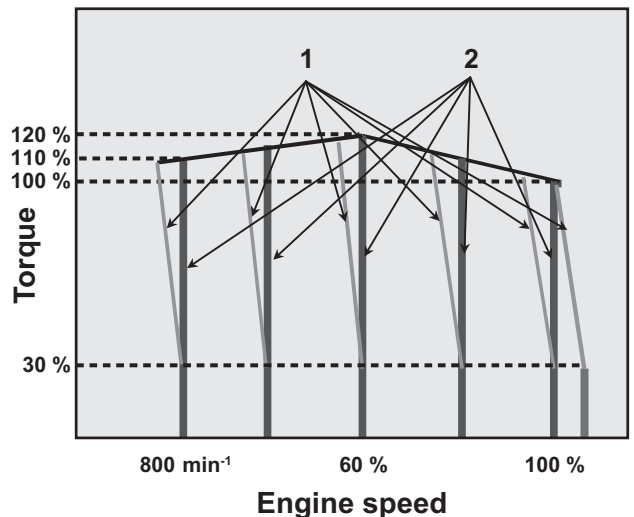

Figure 21
Figure 21 shows typical engine speed curves that outline the relationship between engine speed and load.
The VM series engines for general use are designed so that the engine speed is reduced by a certain percentage from 30% load to full rated load. See curves (1) in **Figure 21** below. The same percentage droop is maintained at any no-load speed.
The CL series consists of isochronous design engines, the speed of which is kept constant from no load to full rated load. See curves (2) in **Figure 21** below.